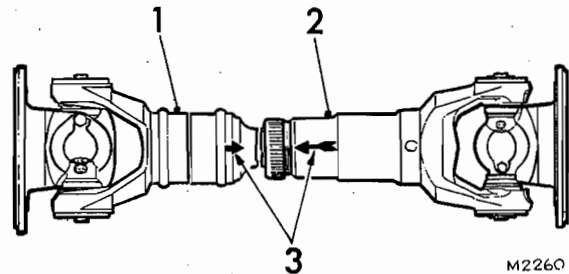

FIG. 1 PROPELLER SHAFT
1. Where a slip stub shaft has been removed from a sleeve yoke, it should always be replaced so that the arrow stamped on the shaft lines up with the arrow on the yoke, see Fig. 1.